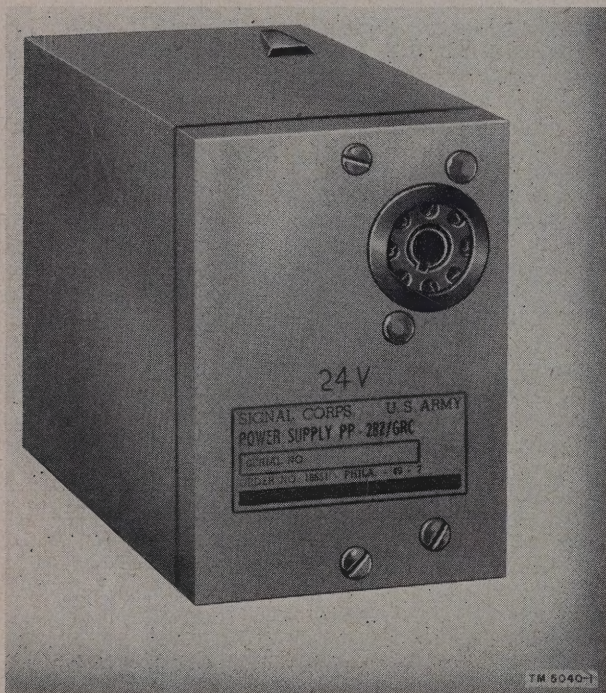

Figure 13. Power Supply PP-282/GRC.
19. Power Supplies PP-281/GRC and PP-282/GRC (fig. 13)